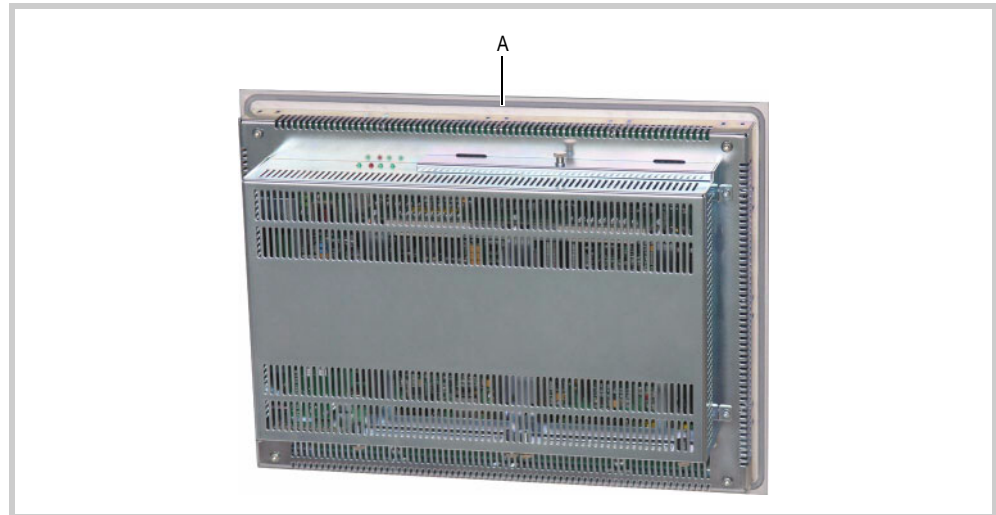

Fig. 25 Groove for sealing strip (A)
- 3 Insert the sealing strip supplied in the groove (A) on the rear of the device front plate and cut it so that the join is tight.
- Groove for sealing strip, see Fig. 25, 41.